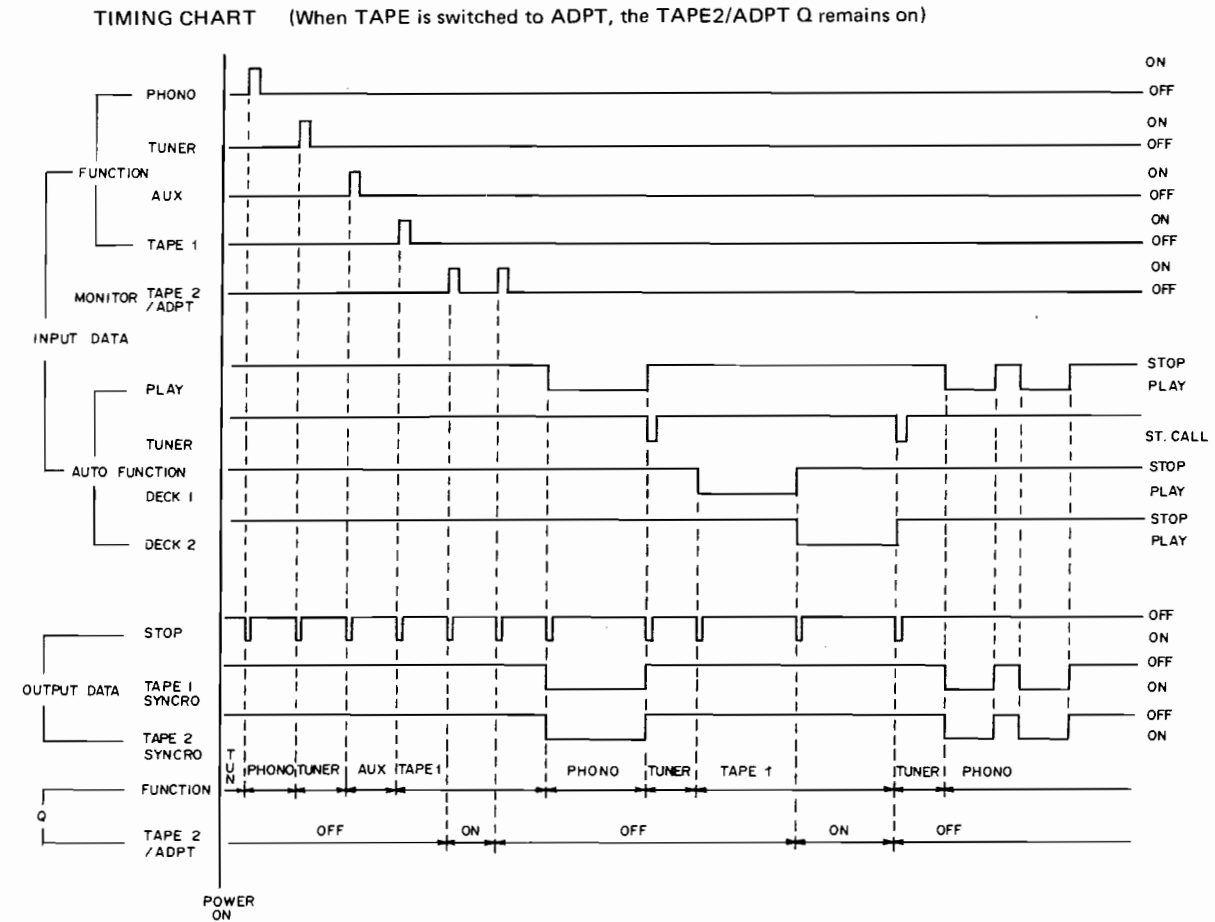

Fig. 8-3 Function switching timing chart
1. S205-1 is switched on when the first position of the UP volume switch (S205) is pressed. A voltage divided according to the resistance ratio shown in Fig. 8-3 is applied to the base of Q5 to switch that transistor on.
3. If the UP switch is pressed further, S205-2 is also switched on, resulting in a voltage divided according to the resistance ratio shown in Fig. 8-3 being applied to the base of Q5.
1. S204-2 is switched on when the DOWN switch (S204) is pressed to the first position. A negative voltage divided according to the resistance ratio shown in Fig. 8-3 is applied to the base of Q7 to switch that transistor on.
3. If the DOWN switch is pressed further, S204-1 is also switched on, resulting in a voltage divided according to the resistance ratio shown in Fig. 8-3 being applied to the base of Q7.